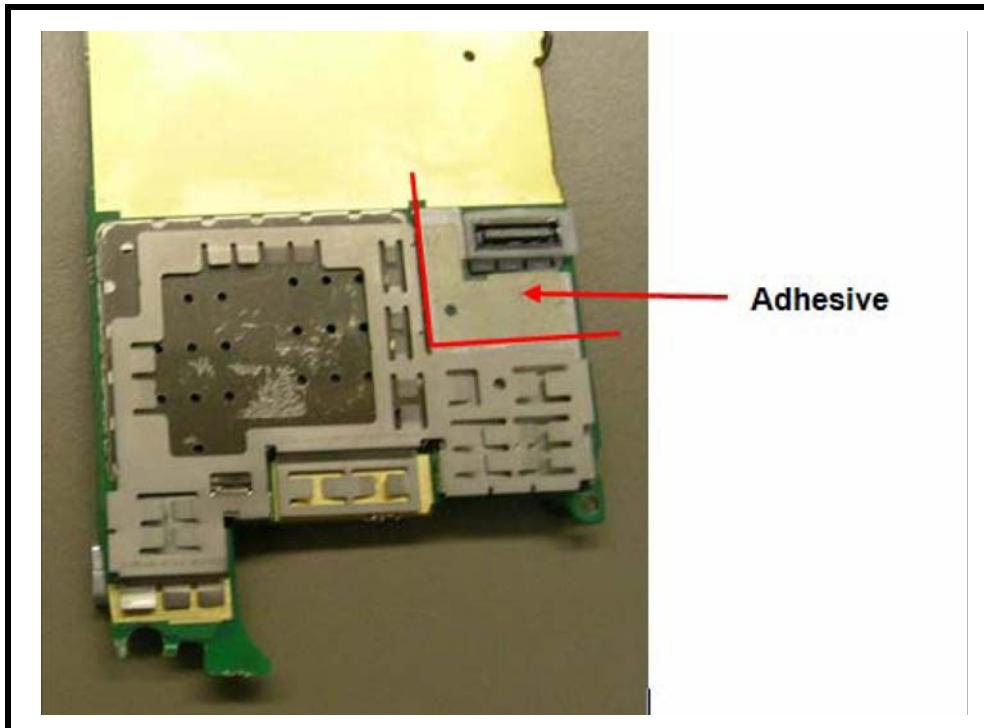

Figure 21. Aligning the Keyboard Adhesive Tape
7. Attach Bootstrap as shown. Apply "L" shaped adhesive to Main board and align with the edges of the shield (see Figure 21). Remove the adhesive liner before attaching to keyboard.